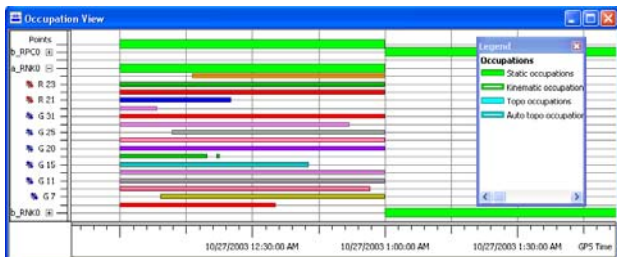

Figure 3-17. Occupation View – Occupation Graph and Legend
1. Click the **Occupation View** button on the toolbar or **View ► Occupation View** to display the occupation graphic representation for a job (Figure 3-17 on page 38).